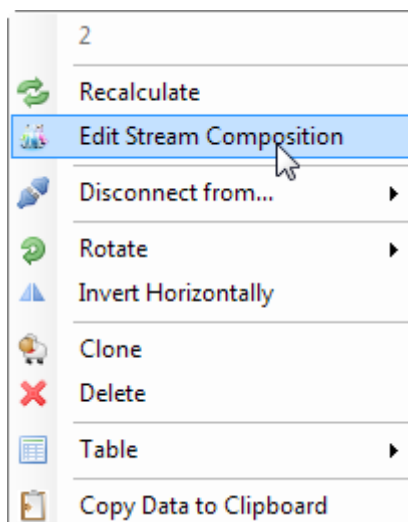

Figure 15: Selected object context menu.
- Through the context menu activated with a right mouse button click over the object (Figure 15);
Removing objects from the flowsheet The selected object can be removed from the flowsheet by pressing the DEL keyboard button or by using the context menu - "Delete" item (Figure 15).